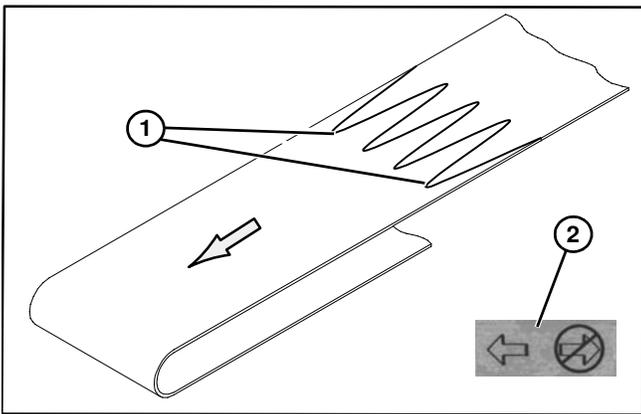

Figure 75
2. Orient belt so splice outer fingers (Figure 75, item 1) point in the direction of belt travel as identified by the conveyor directional label (Figure 75, item 2).